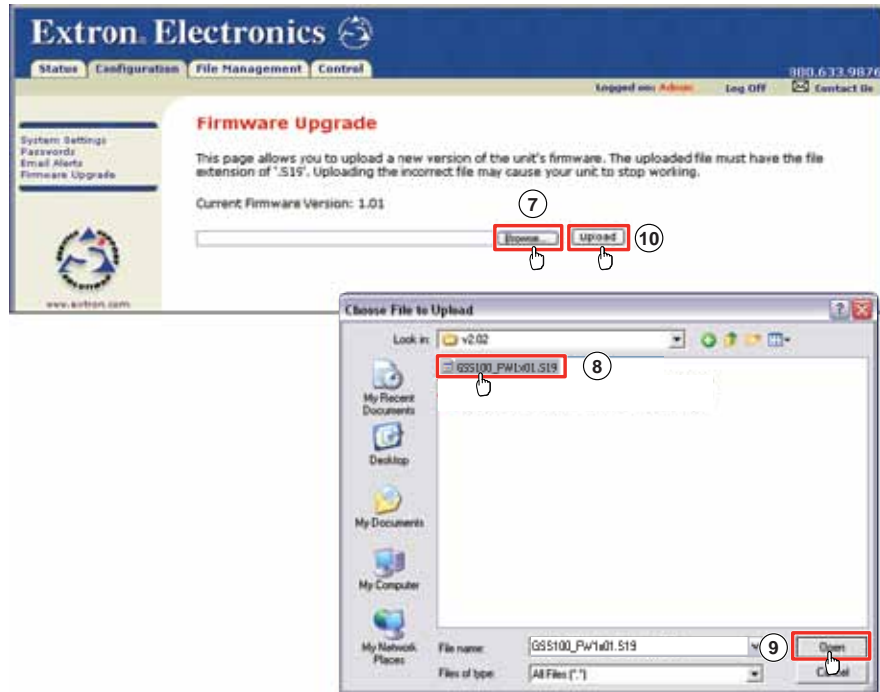

Figure 26. Firmware Upgrade
6. Click the **Firmware Upgrade** link (see figure 26).